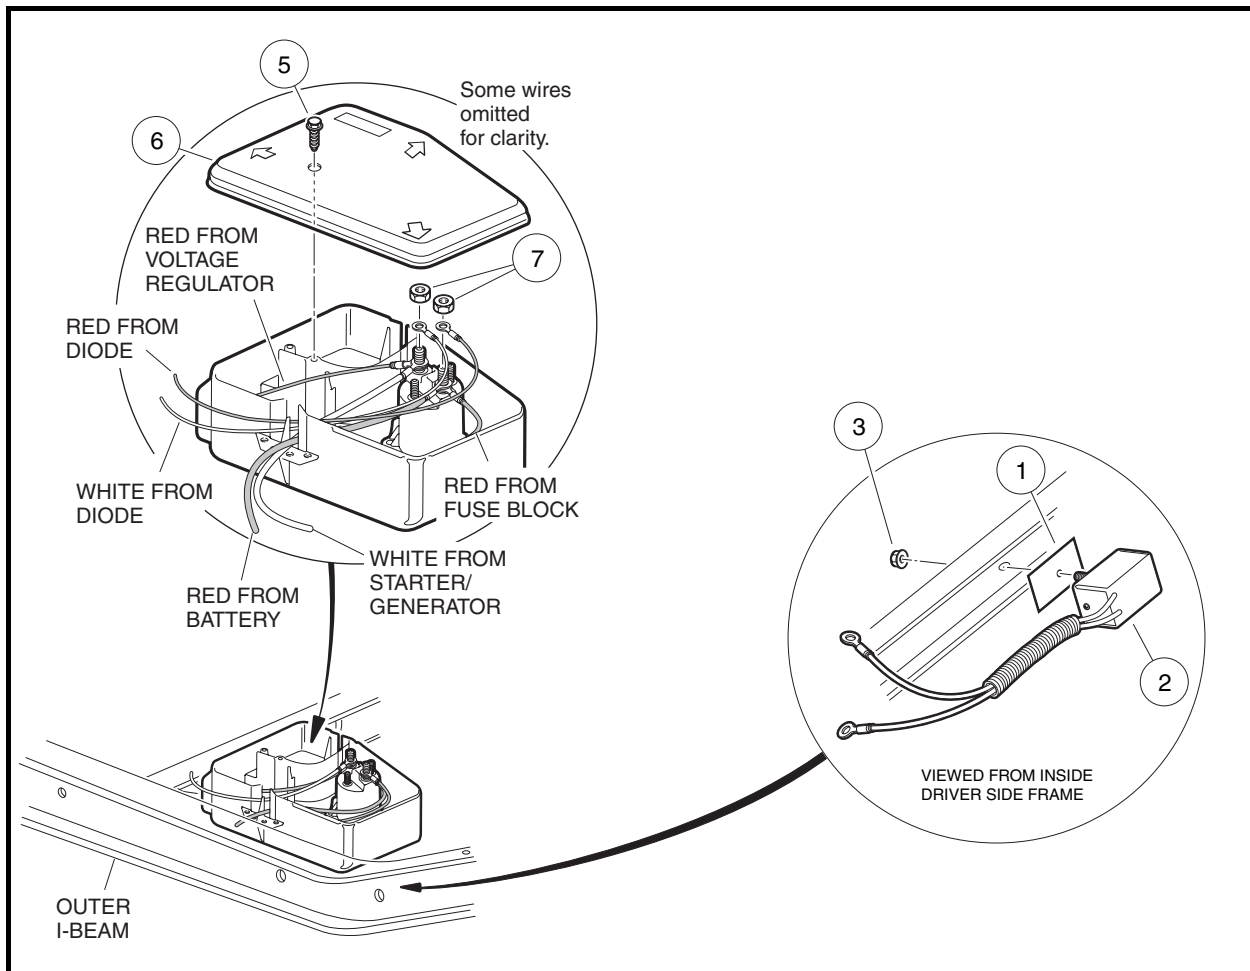

Figure 11-17 Electrical Control Box and Diode Orientation
- 3.2. Remove the cover retaining screw (5) and electrical component box cover (6) (**Figure 11-17, Page 11-19**).